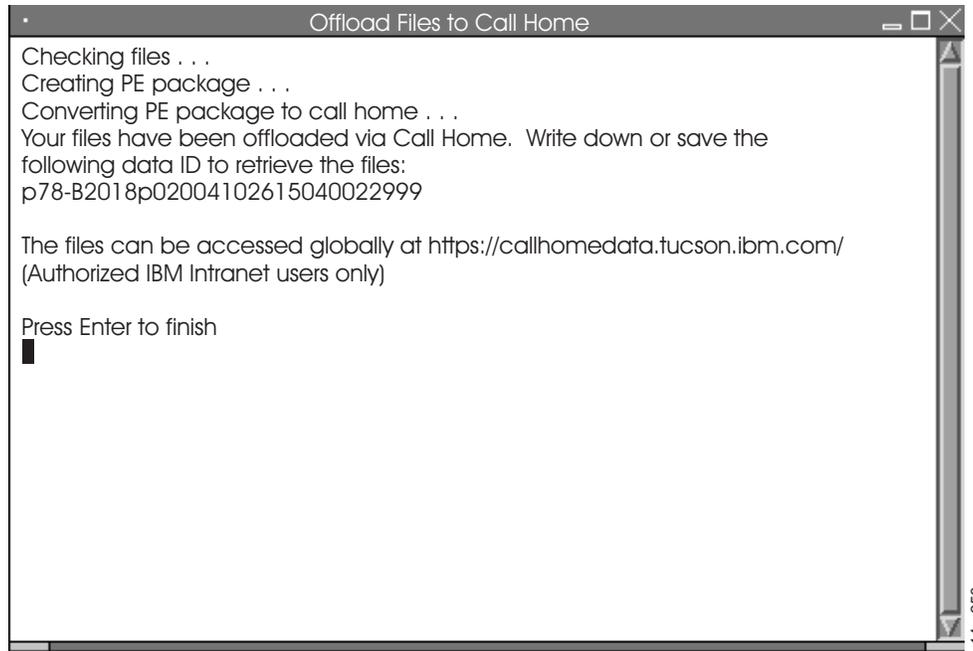

Figure 212. Offload Files to Call Home
1. From the main menu, select **System Console Actions > Offload User Files to Call Home**. If you are using a dial-in session, issue the command **offloadpkg**. File offload begins. The window depicted in Figure 212 on page 161 appears.
2. See Figure 212. A data ID is assigned to the user's files. This data ID must be entered to retrieve the files on the RMSS Call Home Database. Make note of this ID for future reference. If the ID is lost, the user's files can still be found by locating call homes from the system console's Primary System on the Call Home Database. The Primary System is set in Call Home Setup (see "Configuring Call Home Settings Electronic Customer Care" on page 83). To assist in recording the ID, note that the ID always takes the form described in the following example.